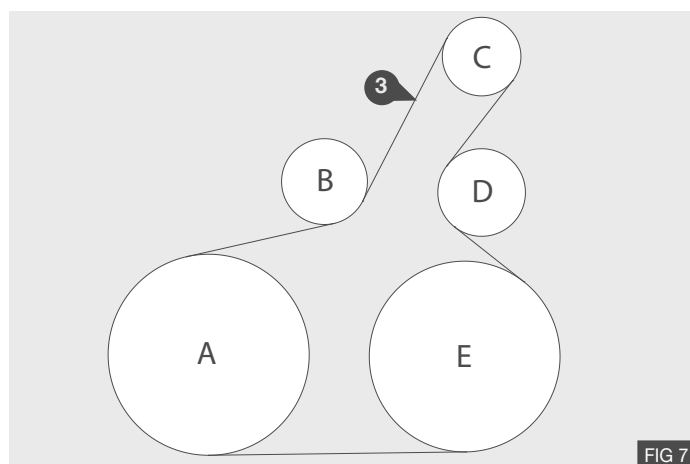

FIG 7
1. Fit the supplied drive belt ③ as shown opposite - Fig 7